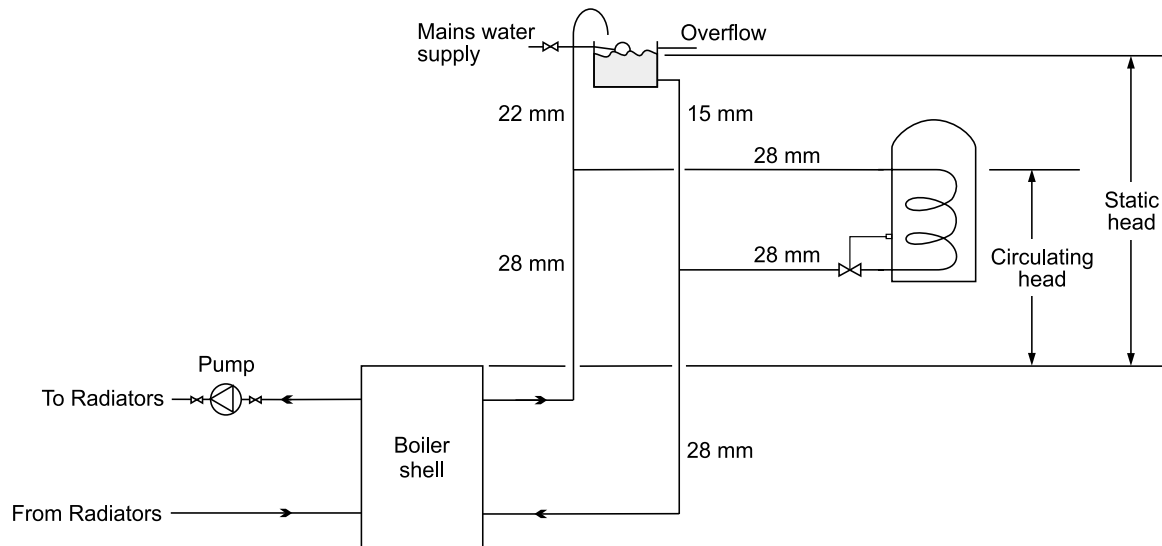

Fig. 13 - Gravity domestic hot water system
See Figs. 13, 14 and 15
3.13.1 Gravity domestic hot water - (See Fig. 13)